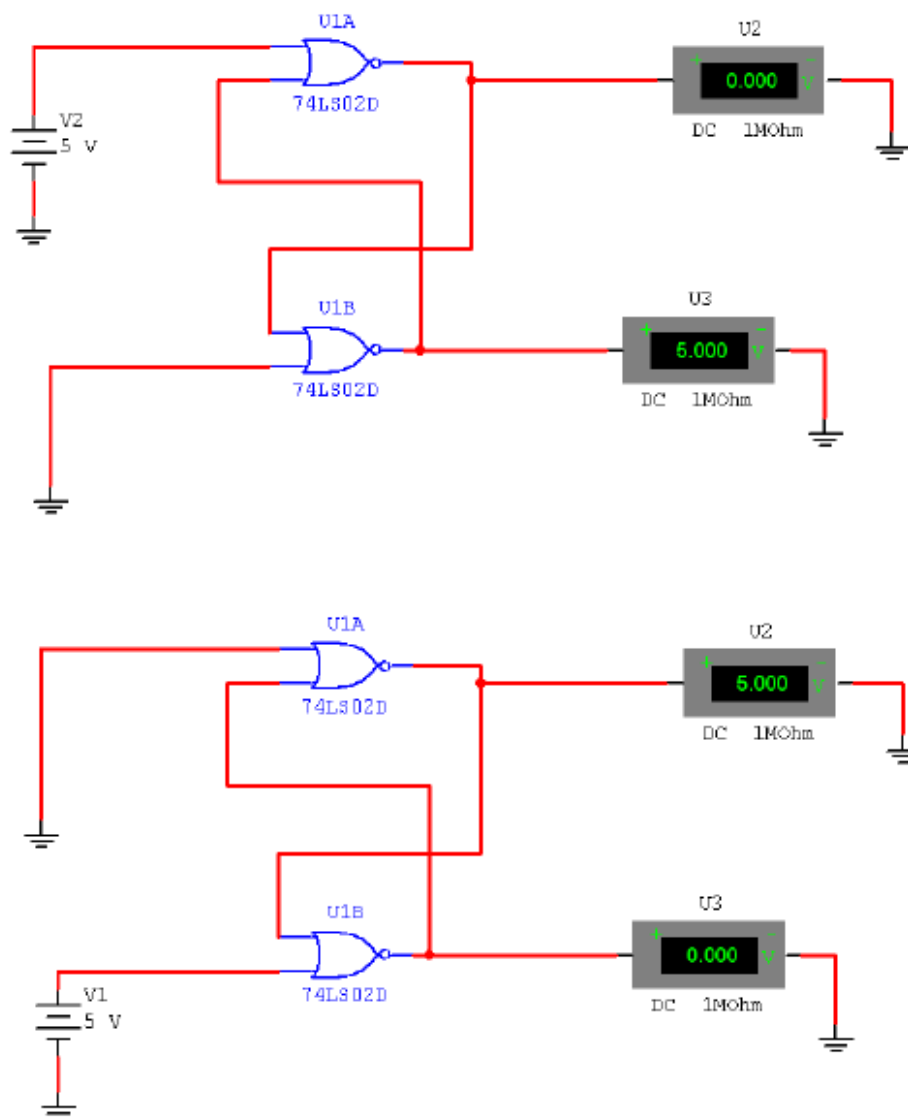

Fig.19 NOR-gate realization of an RS-flip flop
- Construct the circuit shown in Fig.19.